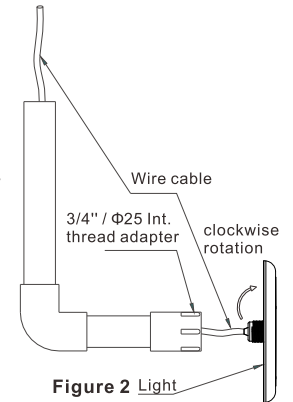

Figure 2 Light
1. As shown in Figure 2, first glue the 3/4" interior thread adapter to the pre-embedded water pipe, and turn the lamp clockwise and tighten to the adapter.